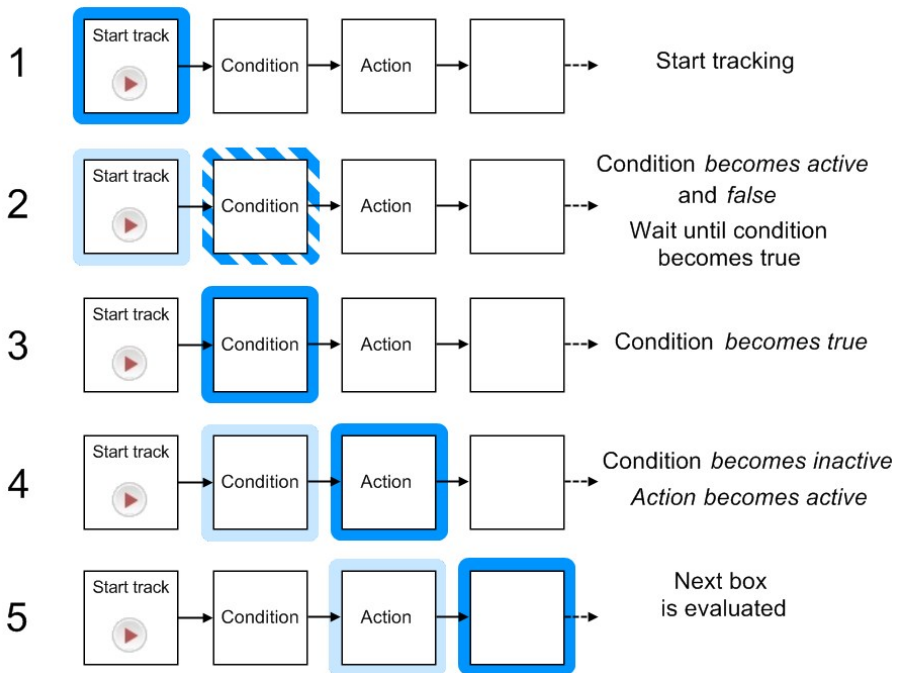

Figure 3 Schematic representation of how Trial Control Instructions are executed. The scheme shows an example of a Start-Stop trial rule (see page 52).
- For a **Condition** box. EthoVision XT waits until the condition is met. When this happens (condition *becomes true* - see 3 in Figure 3), the program passes control to the next box in the sequence. The condition becomes then *inactive* (see 4 in the same figure).
- For an **Action** box. EthoVision XT carries out the action (see 4 in Figure 3), and passes control to the next box, which *becomes active*. Then, the Action box *becomes inactive* (see 5).
When plotted against time (see page 176), events like those in Figure 3 look like as follows:
Figure 4 Time plot of the events of Trial Control represented in Figure 3. The time that the animal is in the zone “Top of Shelter” is indicated by a horizontal bar.
When tracking starts, the Action “Start track” becomes active (1st line) and immediately inactive (2nd line) as control passes to the next box. The condition “On top of Shelter?” becomes active (3rd line; see 2 in Figure 3) and immediately false (4th line) since the animal is not in that zone. When the animal enters the zone, the condition becomes true (5th line), and becomes immediately inactive (6th line) as control passes to the next box (see 4 in Figure 3). The action becomes active (7th line) and immediately inactive (8th line) as the command “drop a pellet” is sent to the pellet dispenser.